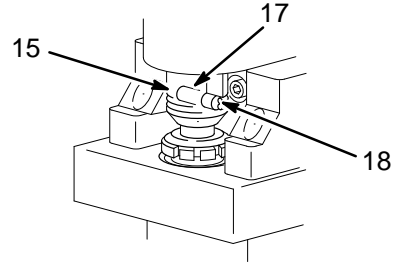

Fig. 18
2. Try to stop the pump with the piston rod (107) in its lowest position. To lower the piston rod manually, rotate the motor fan blades. Use a screwdriver to push the retaining spring (18) up and push out the pin (17). See Fig. 18.